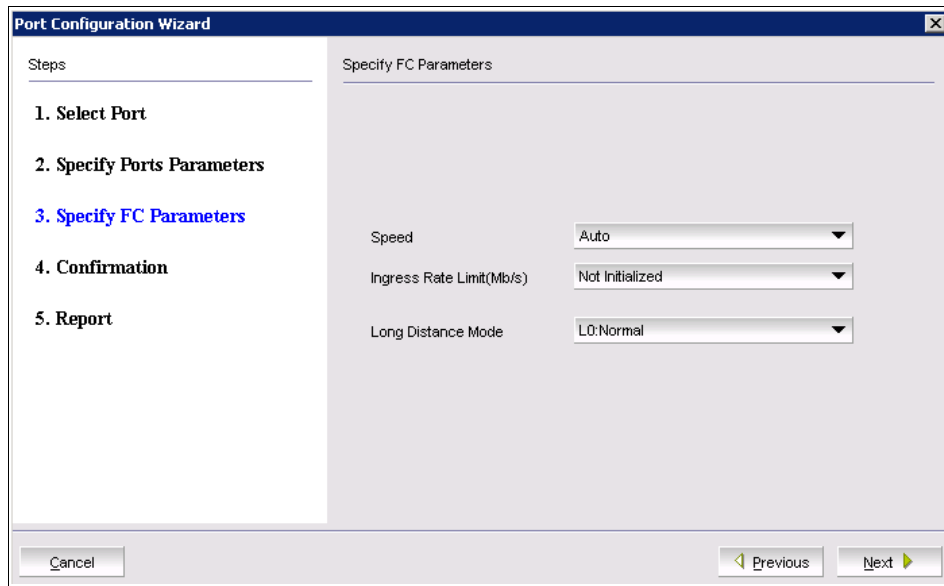

Figure 9-11 FC Parameters dialog box for EX\_Ports
5. As Figure 9-11 shows, the FC parameter's speed and long distance mode are defined. We chose **Auto** for speed and **L0** as the distance mode because all devices in our setup are closely located. Click **Next**.